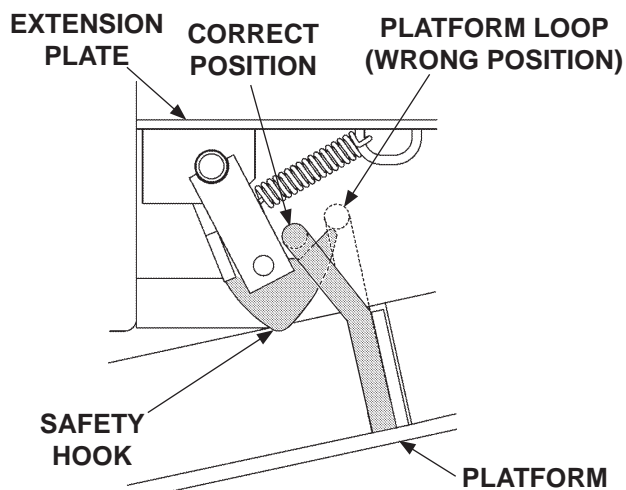

FIG. 22-1
2. When the Liftgate is stowed, see if **platform loop** is positioned above the **safety hook** as shown in **FIG. 22-1**.
1. If the safety hook is not positioned correctly (**FIG. 22-1**), lower platform to ground level (see **Operation Manual**).